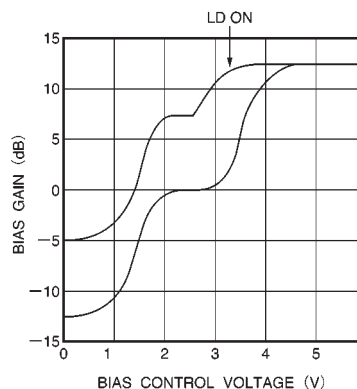

Fig.6 Bass gain vs. bass control voltage
4) When loudness is operated during tone adjustment, if the amount of boost due to the combined tone boost and loudness exceeds the maximum boost, the circuit design ensures that the amount of loudness change will not exceed the maximum amount of tone boost (see Figs. 6 and 7).